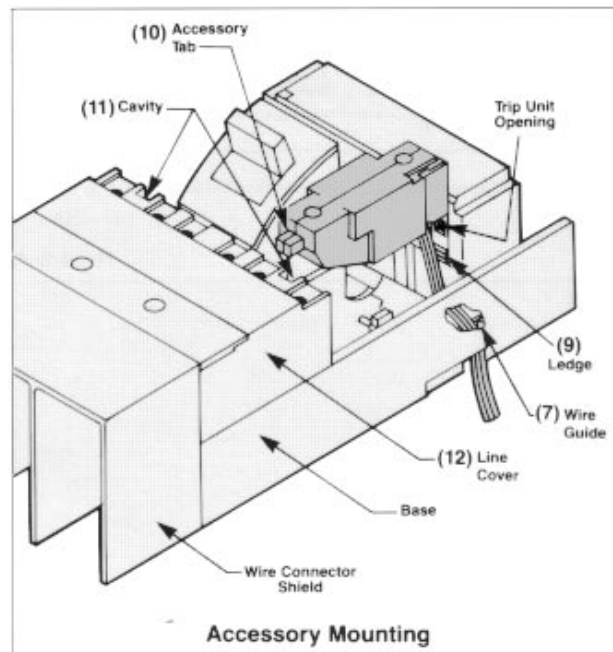

**Figure 1**
- Make sure device is in tripped position. For circuit breakers, depress the red TRIPPED button (1) (Figure 1). On molded case switches, removing the cover will trip the mechanism.
- Remove two terminal shield screws (2) on load end cover (3) (Figure 1) and remove terminal shield (4) and wire connector shield (5) (if used). Remove load end cover. Accessory units can be mounted in either right or left pole of the circuit breaker.